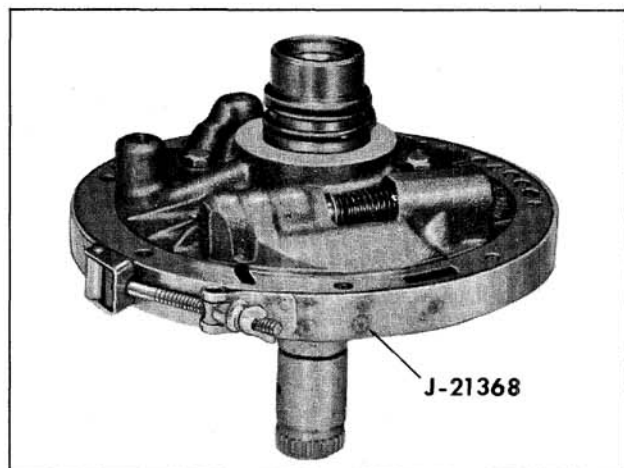

Fig. 6-427 Installing Pump Cover to Pump Body
9. Install pump cover to pump body. Install five retaining bolts but do not tighten. Place Tool J-21368 around pump to obtain proper alignment. Tighten bolts 16 to 24 ft. lbs. (Fig. 6-427)